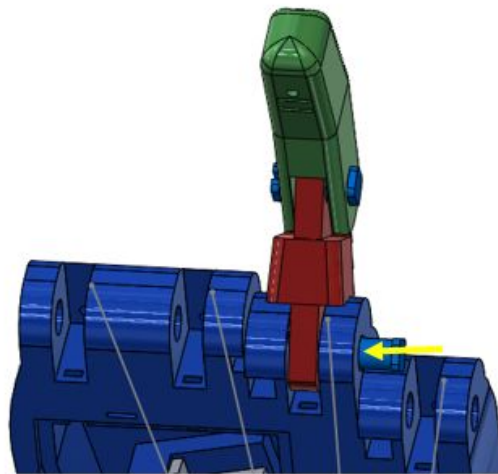

Figure 2.6.3: Finger Attachment to Palm
Gather the wire from the front of the finger and lace it through the hole directly at the bottom of the finger. Pull the wire through. Secure this finger attachment with the short palm pin (item 3.6). A visual of this process can be found in Figure 2.6.3.